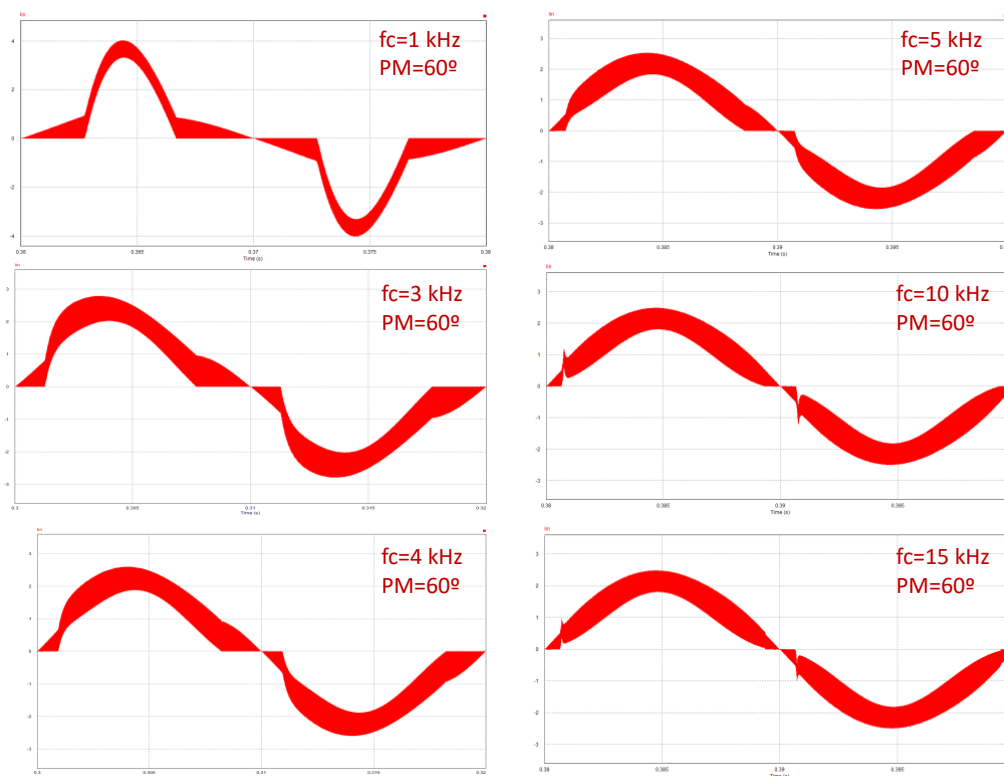

Figure 30: Zero-crossing distortion with different compensators in the current loop
To illustrate this problem related with the low cross-over frequency of the inner loop, a comparison between several designs of the inner loop with different phase margin (PM) and cross-over frequency (f_c). The input current waveforms achieved with these designs are compared in Figure 30.